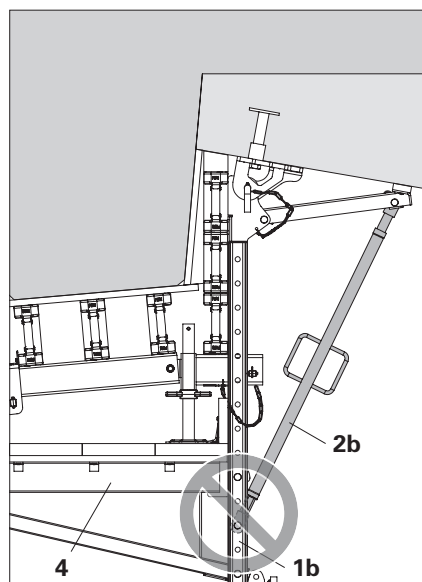

Fig. A4.02a
- Never attach Kicker AV 111 (**2b**) between the fixing points of Platform Cantilever Beam VGK 170 (**4**). (Fig. A4.02a)